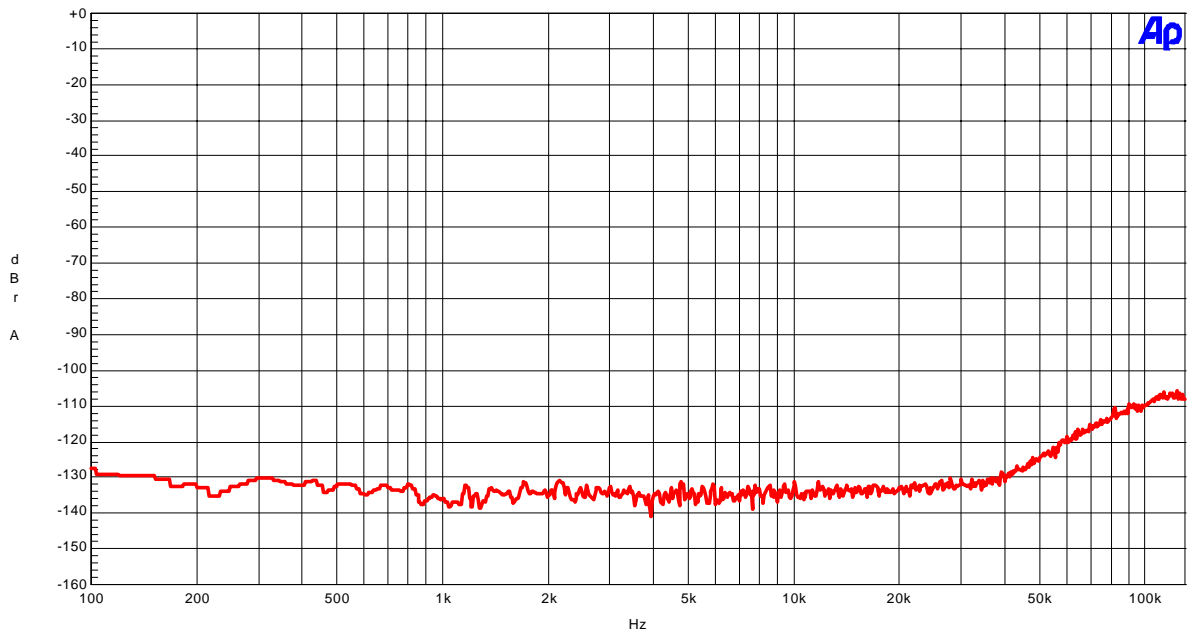

Figure 9 . FFT (out-of-band noise)
- Figure 9 . FFT (out-of-band noise)